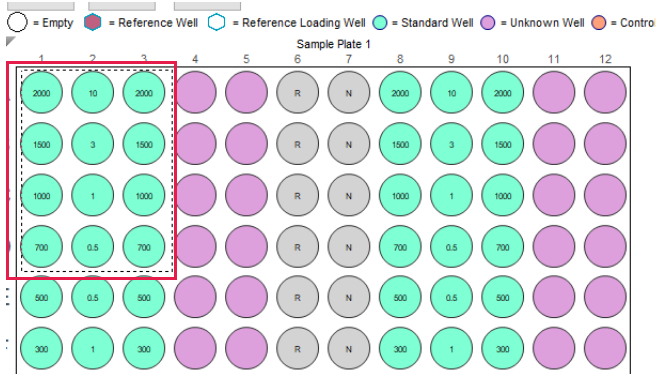

Figure 9-18: Selecting Multiple, Sequential Wells
- To view data for multiple sequential wells, use your mouse to draw a box around the wells in the biosensor tray or sample plate (Figure 9-18).